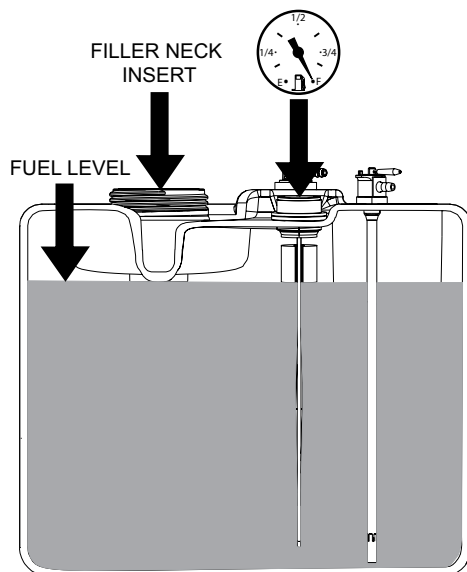

Figure 7-5. C.A.R.B. / EPA Phase 3 Fuel Level
Fill to the bottom of the filler neck insert (approximately 5-1/2 gallons indicating Full (F) on the fuel gauge) at the beginning of each operating day. See Figure 7-5. Do not overfill. Use clean, fresh unleaded gasoline with a minimum octane rating of 87 and a maximum of 10% Ethanol.